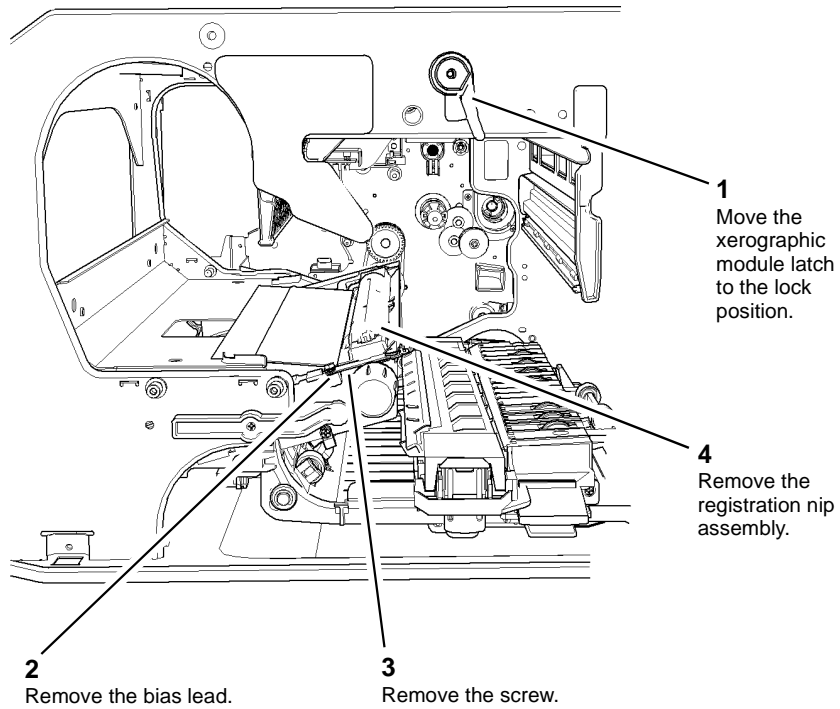

Figure 1 Registration nip removal
3. Remove the registration nip assembly, Figure 1